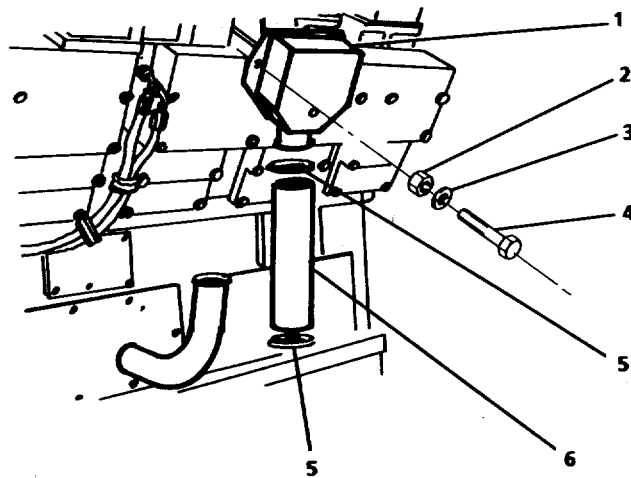

FIGURE 2-53. *Crankcase Breather.*
- (7) Loosen two hose clamps (5, FIG. 2-53) on crankcase breather hose (6). Remove hose.
- (8) Remove four capscrews (4), lockwashers (3), and flat washers (2).
- (9) Remove crankcase breather (1).
- (11) Position crankcase breather (1, FIG. 2-53). Install two flat washers (2), lockwashers (3) and capscrews (4). Tighten to 30 ft-lb (40 N•m).